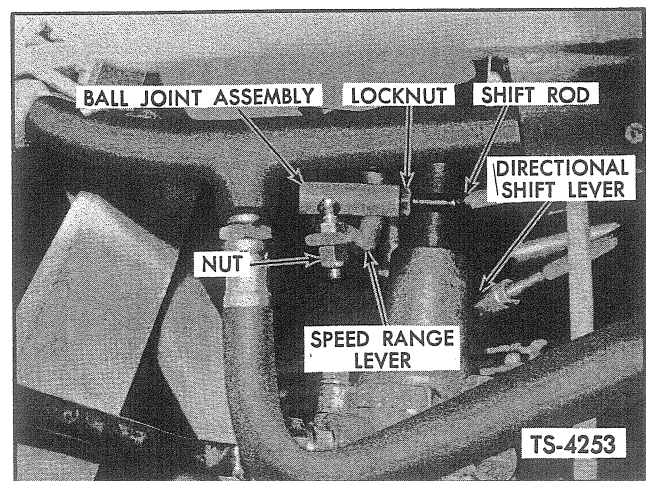

Fig. 24. Adjust Directional and Speed Range Shift Levers - Steering Column
3. Loosen locknut on shift rod, and remove nut securing ball joint assembly as shown in Figure 24.